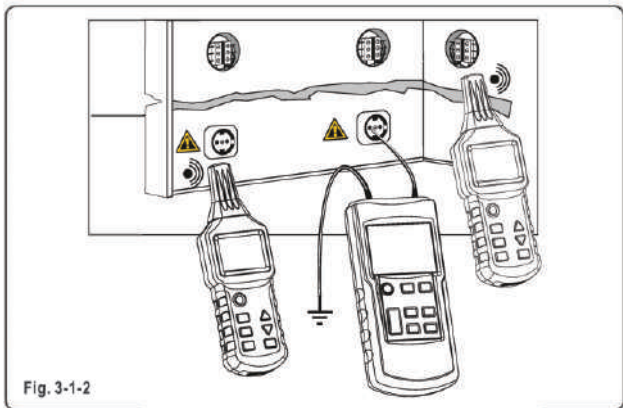

Fig. 3-1-2
- Connect transmitter to phase line and protective earth wire according to Fig. 3-1-2.